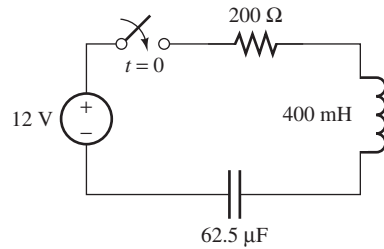

FIGURE P5.41 Circuit for Problem 5.41.
5.41 (B) The switch closes at $t = 0$. Find the expression of $i_L(t)$ for the circuit shown in Figure P5.41.